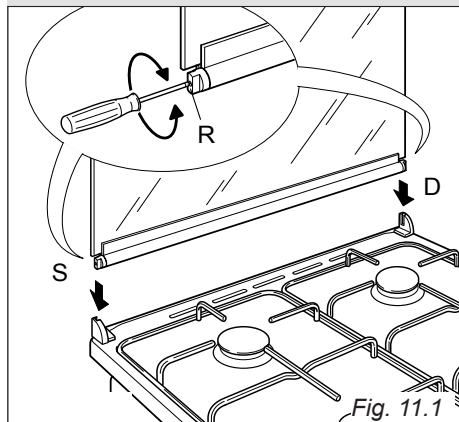

Fig. 11.1
- The right housing must receive the hinge marked “D” while the left housing must receive the hinge marked “S” (fig. 11.1).
Lower the lid and check the correct balance. While opened at 45° it should hang up. The springs of the hinges can be adjusted if necessary by turning the screws “R” clockwise (fig. 11.1).